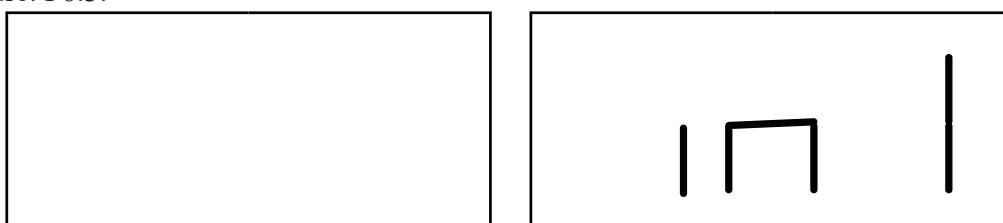

Fig. F6.3 Input of the weight W1 position
3. If there is an imbalance on the external side instead, the machine will display the message shown in the figure. F6.3.